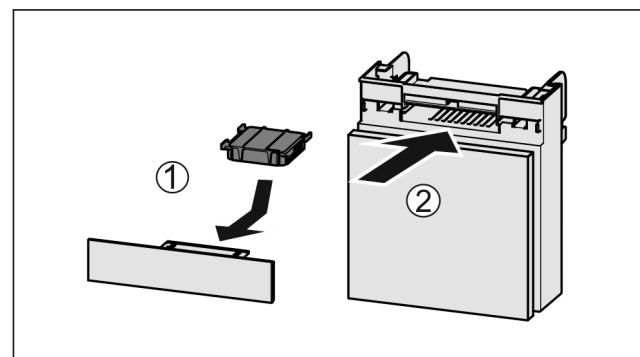

Fig. 41
- ▶ Insert the carbon filter as shown in the diagram Fig. 41 (1).
- ▶ Push the compartment in Fig. 41 (2).